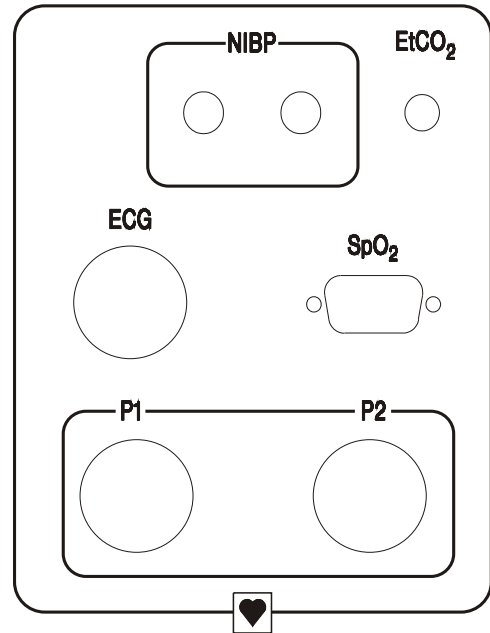

Figure 1-7. Parameter Input Panel
1.6 Parameter Input Panel. (See Figure 1-7) The Parameter Input Panel is located on the monitor column below the Control Panel and Display. This panel provides for the future connection of cabling from the **3150(M) MRI Monitor**. The panel contains connections for ECG, P1, P2, SpO2, NIBP and EtCO2.